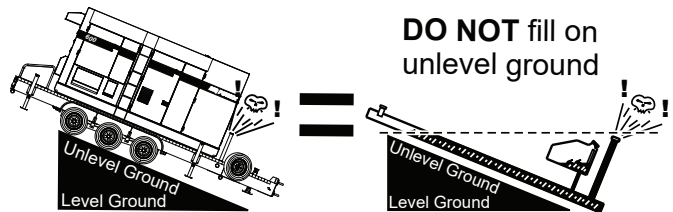

Figure 37. Only Fill On Level Ground
1. **Level the tanks.** Make sure fuel tanks are level with the ground. Failure to do so will cause fuel to spill from the tank before reaching full capacity (Figure 37).